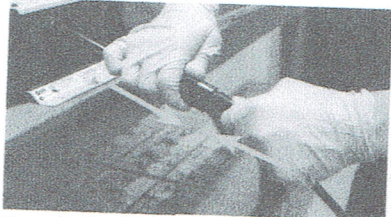

Figure 3: Reconnect AC power to the charger.
8. Reconnect AC power (see Figure 3).
11. Disconnect AC power, wait for the LED indicator display to turn off, then reconnect AC power. (See Figure 3)